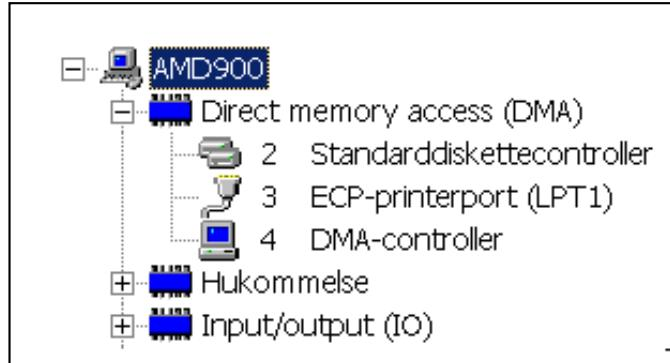

Figure 181. The Windows Device Manager reports on the usage of DMA channels.
7. Which DMA channels are being used in your PC? Compare this with Fig. 181.